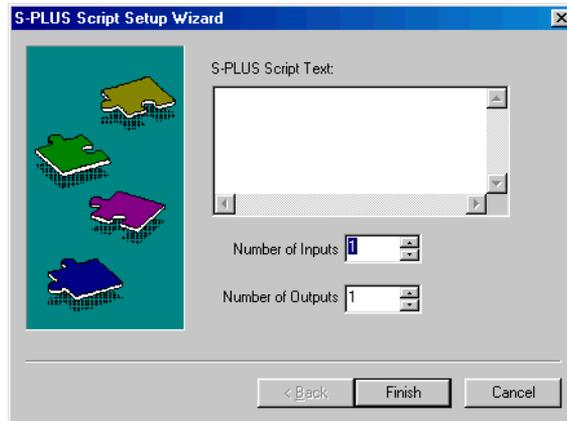

Figure 10.19: *The S-PLUS Script Setup Wizard.*
3. Select **S-PLUS Script** and then click **Next** to start the **S-PLUS Script Setup Wizard**, as shown in Figure 10.19.